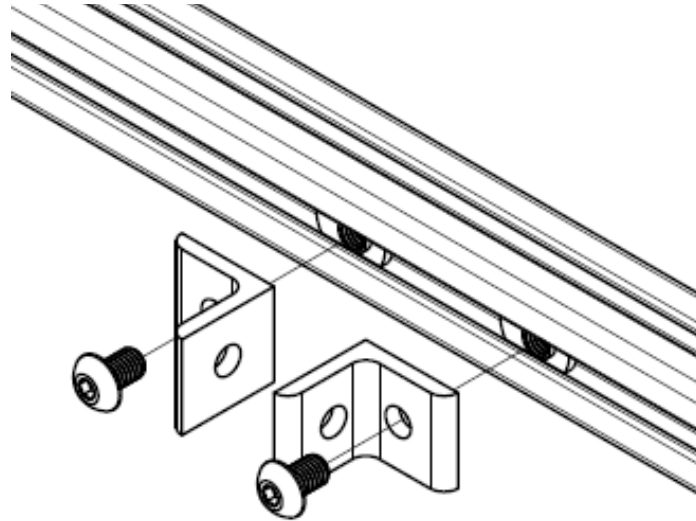

Fig 3.9: Insert the L bracket into the beam by using M5 screw and T-nut
- ❖ Repeat this operation a second time to create an assembly as shown in Fig 3.9.